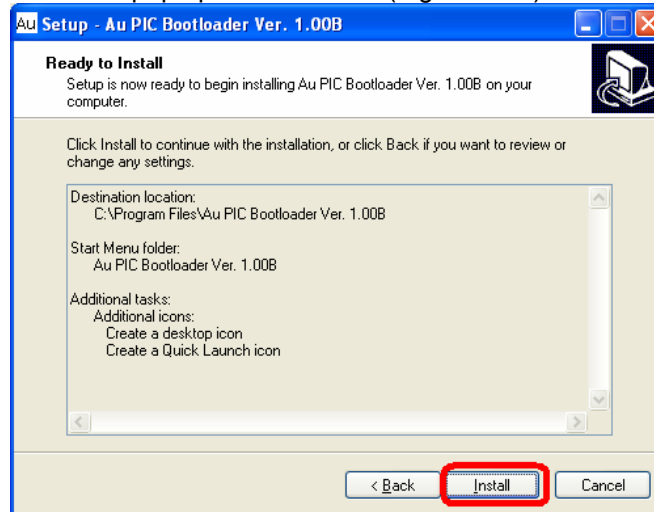

Figure 6-20
7. A “Ready to Install” window will pop up. Click “Install” (Figure 6-20).